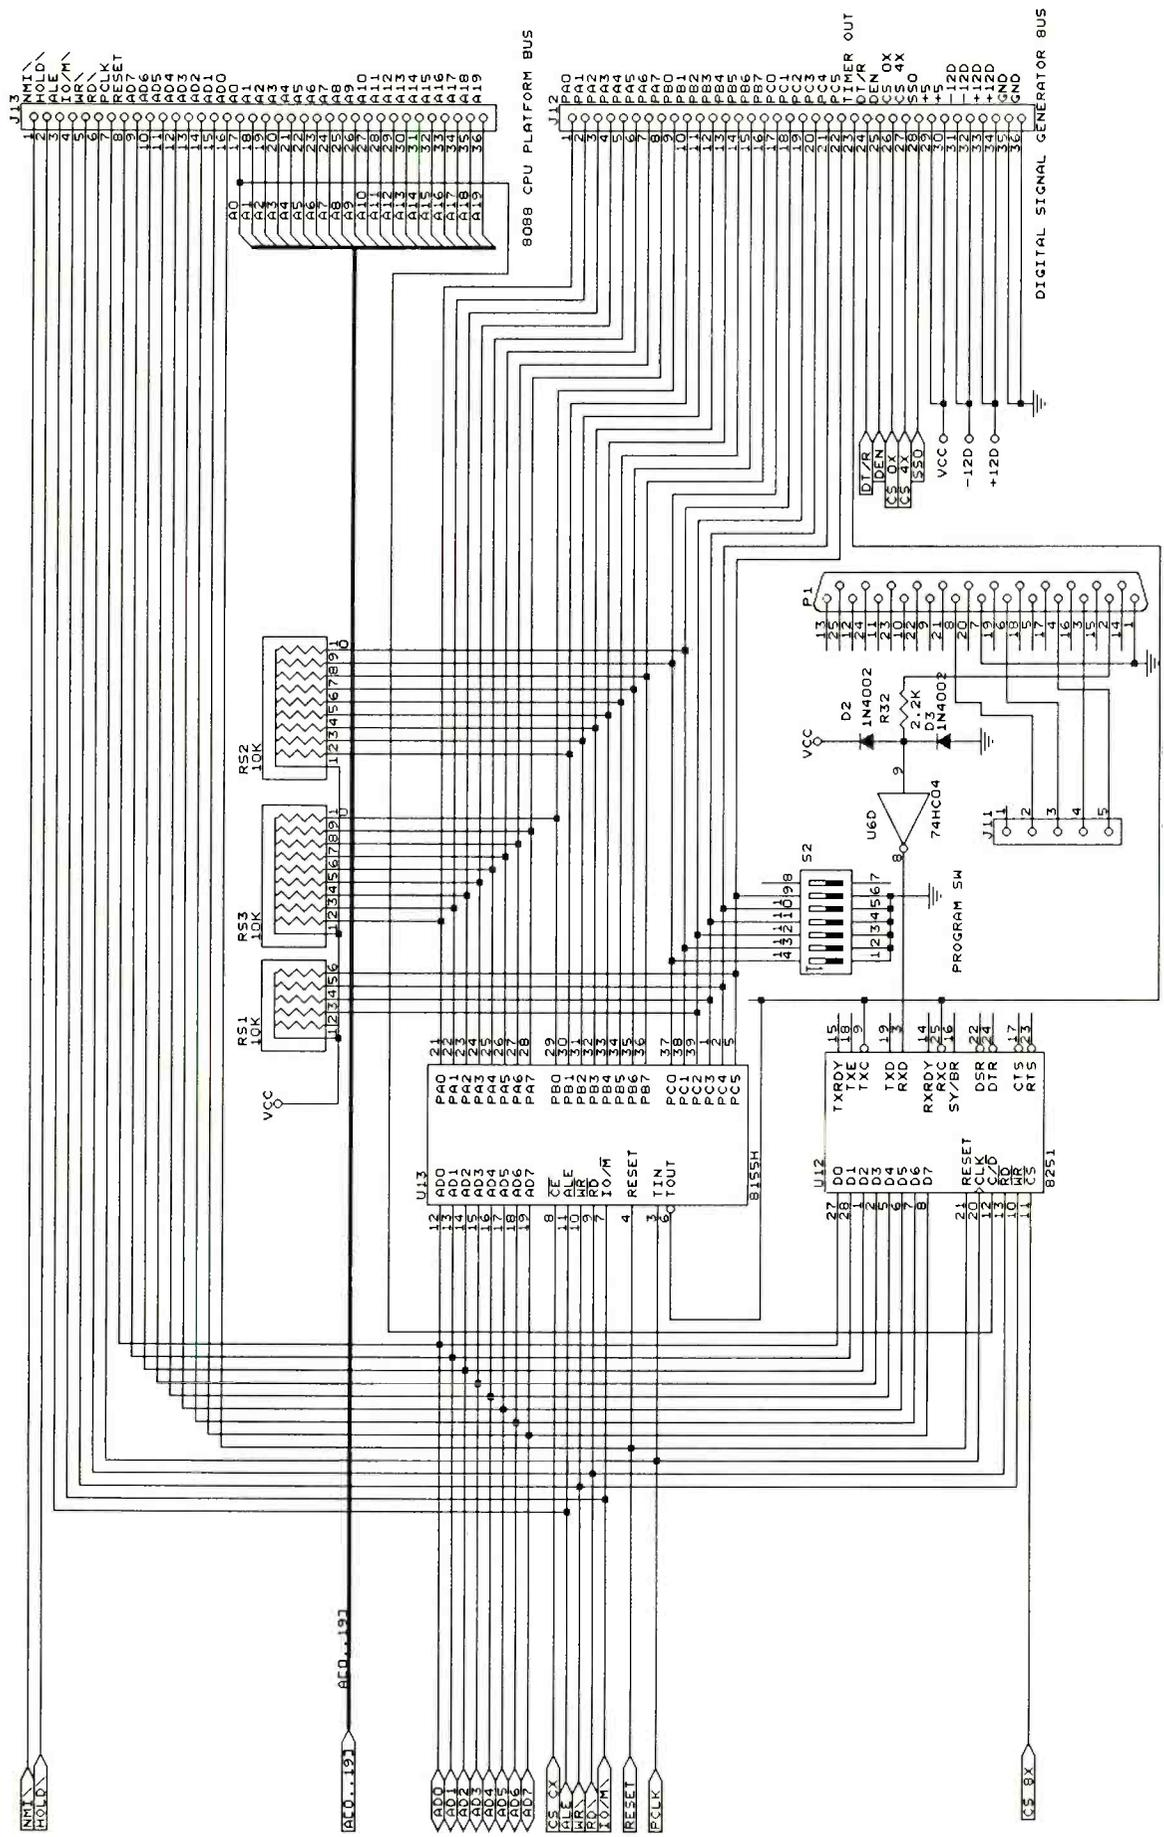

Fig. 2. Complete schematic diagram, minus dc power supply, for Digital Signal Generator add-on.
To generate the digital signal trains in the Digital Signal Generator add-on, an 8088 microprocessor, 8K of RAM, 8K of ROM, an 8155 I/O port/timer and the required support circuits are used. The circuitry for all this is shown schematically in Fig. 2(A) and Fig. 2(B). With this arrangement, digital signal trains are generated by toggling the *U13* output port signals. The timer can be programmed to produce a variety of